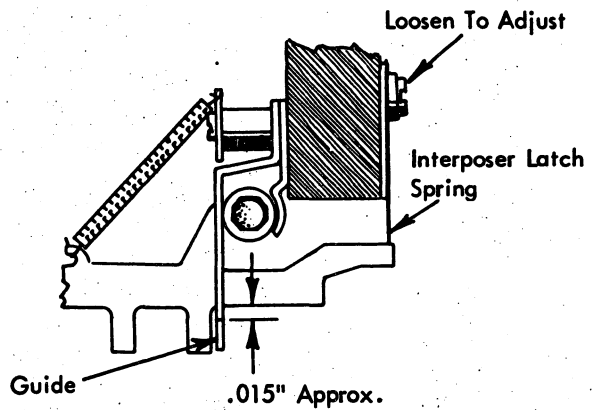

FIGURE 4. Interposer Latch Spring Adjustment
4. Interposer Latch Springs (Preliminary) With the H interposer latched down, adjust the left hand end of the right hand section of latch springs so that there will be approximately .015" remaining travel of the interposer before it bottoms (Fig. 4). Check this clearance by pulling the interposer down with a spring hook.